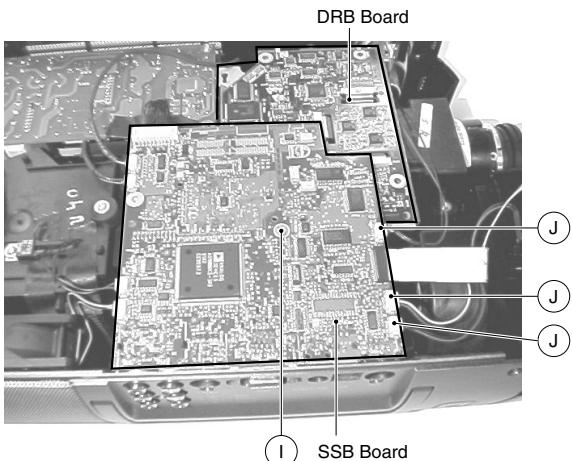

Fig. 7
1. Remove screw "I" and connectors "J" (Fig. 7). Now the SSB (Small Signal Board) can be removed. The SSB is plugged onto the DRB (Drive Board).